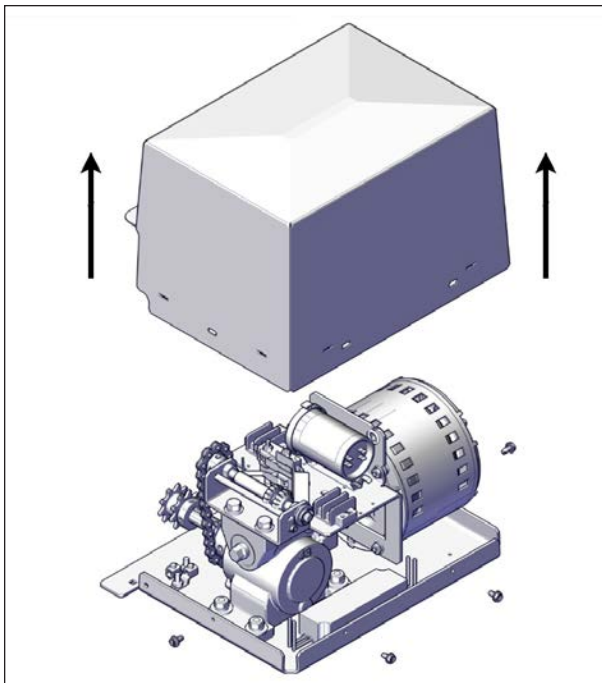

FIGURE 65: REMOVE OPERATOR COVER
1. Remove the screws (4) on the bottom side of the operator cover and remove the cover, see Figure 65.
2. Remove the four slotted screws at the bottom of the operator and remove the cover, see Figure 65.